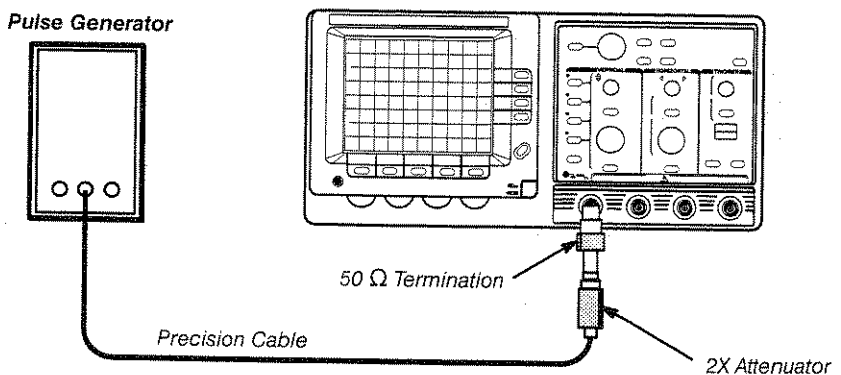

Figure 7-11: High Frequency Step Response Test Setup
2. Connect the positive fast rise pulse output of the pulse generator to the **CH 1** input as shown in Figure 7-11.